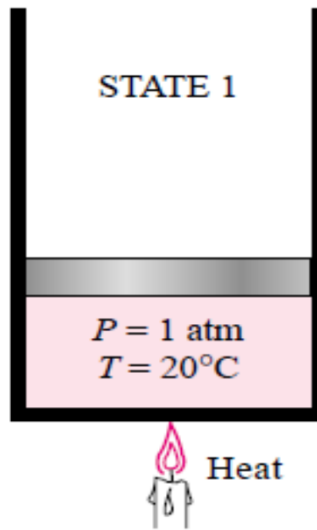

Fig. 3.2: At 1 atm and 20°C, water exists in the liquid phase (*compressed liquid*).
- Consider a piston-cylinder device containing liquid water at 20°C and 1 atm pressure (*state 1, Fig. 3.2*). Under these conditions, water exists in the liquid phase, and it is called a *compressed liquid*, or a *subcooled liquid*, meaning that it is *not about to vaporize*.